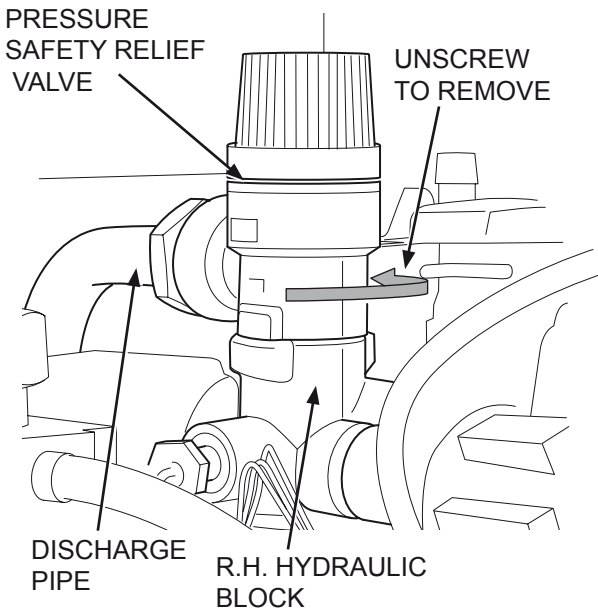

Figure 19.22
19.16 Pressure relief valve ( Figure 19.22)